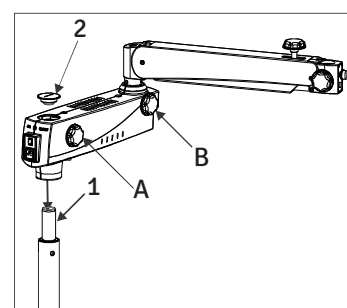

Fig. 3
Install the swivel arm assembly on the upright holding shaft (1) figure 3.